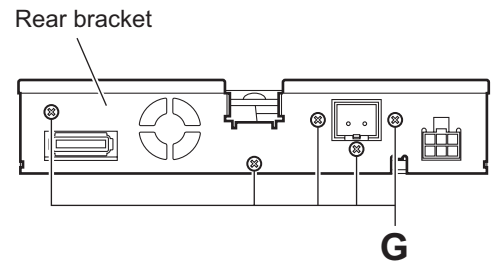

Fig.9
3.1.4 Removing the rear bracket (See Figs.9)